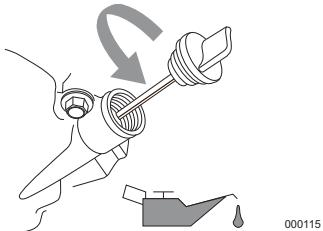

Figure 4-1. Engine Oil Fill
4. Remove oil fill cap and wipe dipstick clean. See **Figure 4-1**.